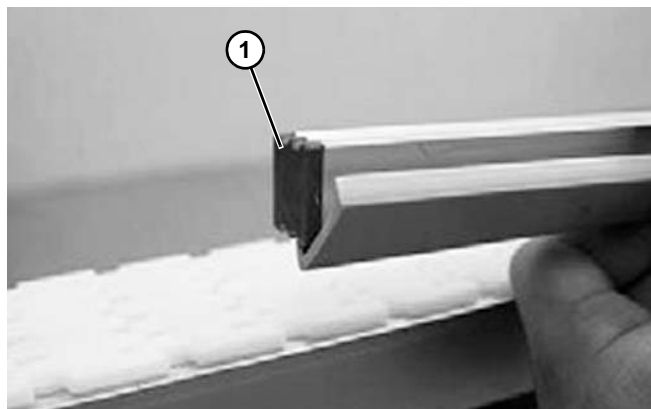

Figure 111
1. To prevent products from being scratched, a plastic guide rail cover (**Figure 111, item 1**) can be snapped on to the inside of the guide rail.